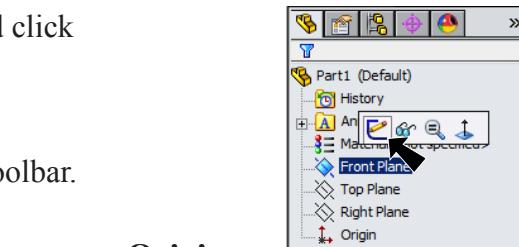
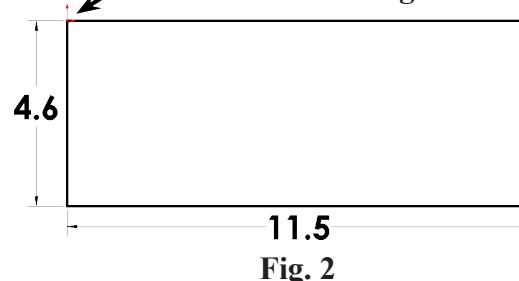

Fig. 1
Fig. 2
Step 2. Click **Front Plane** in the Feature Manager and click **Sketch** from the Context toolbar, Fig. 1.
Step 3. Click **Corner Rectangle** (S) on the Sketch toolbar.
Step 4. Draw a rectangle starting at Origin , Fig. 2.
Step 5. Click **Smart Dimension** (S) on the Sketch toolbar.
Step 6. Add dimensions, Fig. 2.